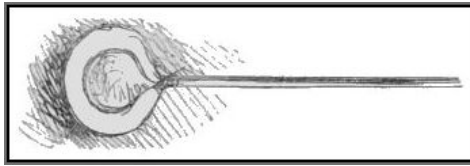
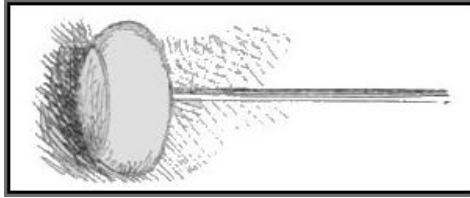

FIG. 3.
FIG. 4.
2). When the kind of glass called “crown-glass” has to be made, the end of the iron tube is put into the pot of melted glass, and turned round till a ball of it is collected about the size of one's head, the workman then blows in at the other end, still turning the rod in his hands; it has now the appearance presented at fig. 3. An iron rod is stuck on to the side of the globe opposite to the “puntil,” which is then pulled suddenly away, leaving a round hole. The globe of glass is again made red-hot, and spun round rapidly, the hole increasing in size until it resembles fig. 4. By continuing the rapid twirling of the rod, the hole opens wider and wider till at last one broad sheet is produced; it is then separated from the rod by putting a drop of cold water at its junction with the glass, which causes it to crack across at that part. It is now about six feet in diameter, perfectly round and flat, and when cold it is cut into halves and packed with straw in a “crate” for carriage. The knot of glass often seen in kitchen or stable windows, is the part in the centre of the glass where the iron rod has joined it, and is called the “punty.”